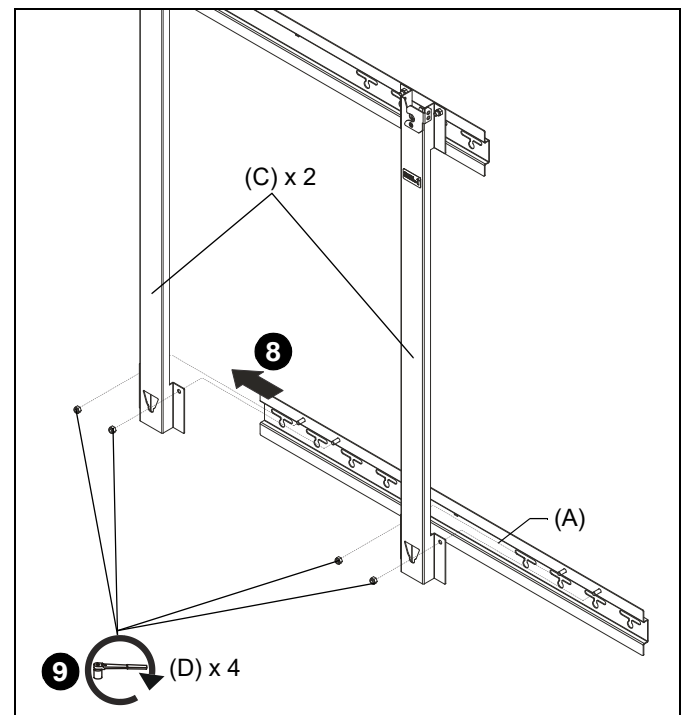

Figure 4
- Slide wall plate (A) in between wall and lower end of side brackets (C). (See Figure 4)
- Loosely install two vertical brackets (C) to lower wall plate (A) using four 5/16-18 lock nuts (D). (See Figure 4)